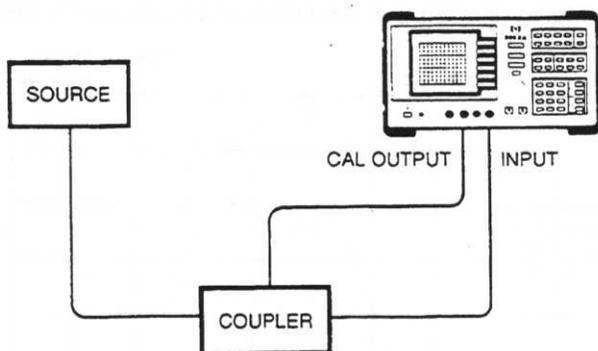

Figure 2-1
1. To obtain two signals with a 100-kHz separation, connect the calibration signal and a signal source to the analyzer INPUT as shown in Figure 2-1. (If available, two sources can be used.)